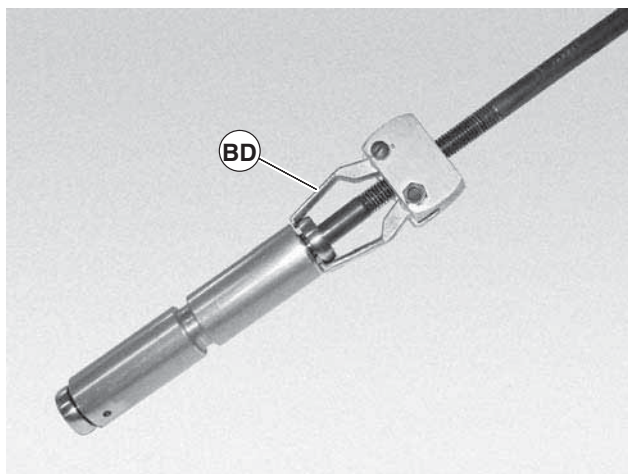
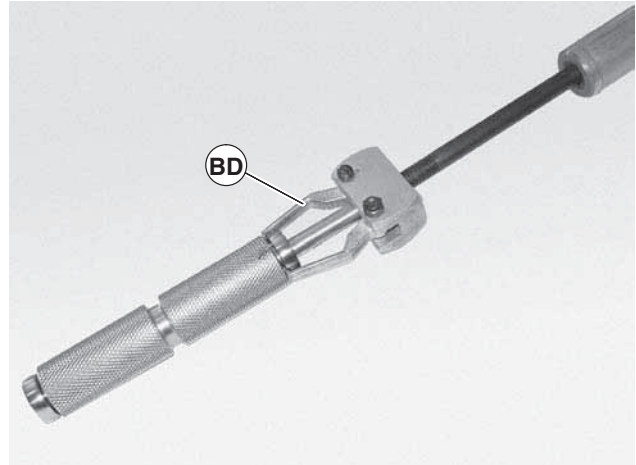

Figure 35
Figure 36
1. Use a bearing removal tool, (Figure 35, item BD), (Figure 36, item BD), part number 807-1078, or equivalent and remove both bearings from the pulley and the drive pulley.